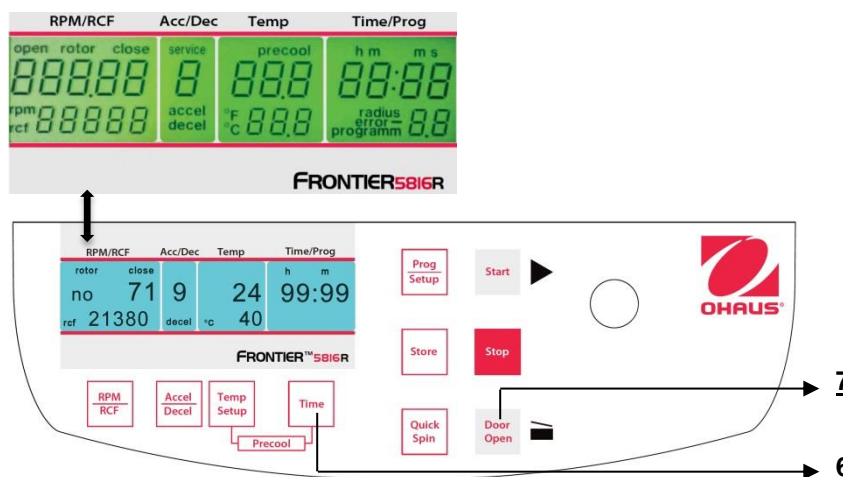

Figure. 29
While the centrifuge is turned off, press simultaneously the keys **"Time"** (6) and **"Door Open"** (7) and turn on the main switch of the centrifuge. Now release both keys and as a result a display test is executed for approx. 5 seconds. All indicators will appear at the same time (See figure 29).